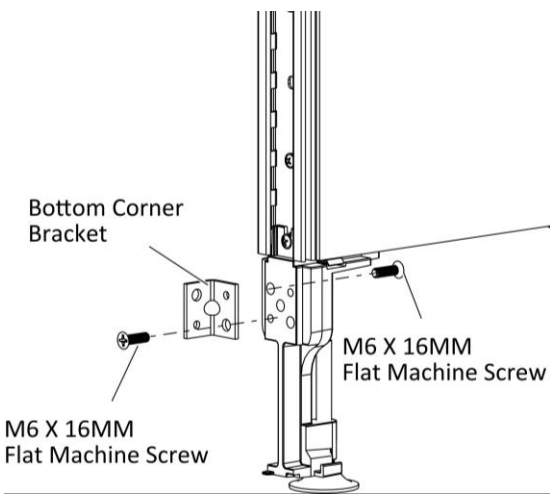

Figure 7
- 12.** Securely fasten the bottom corner bracket into the panel leg of the other short panel with two M6 X 16MM Flat Machine Screws, (Figure 7).